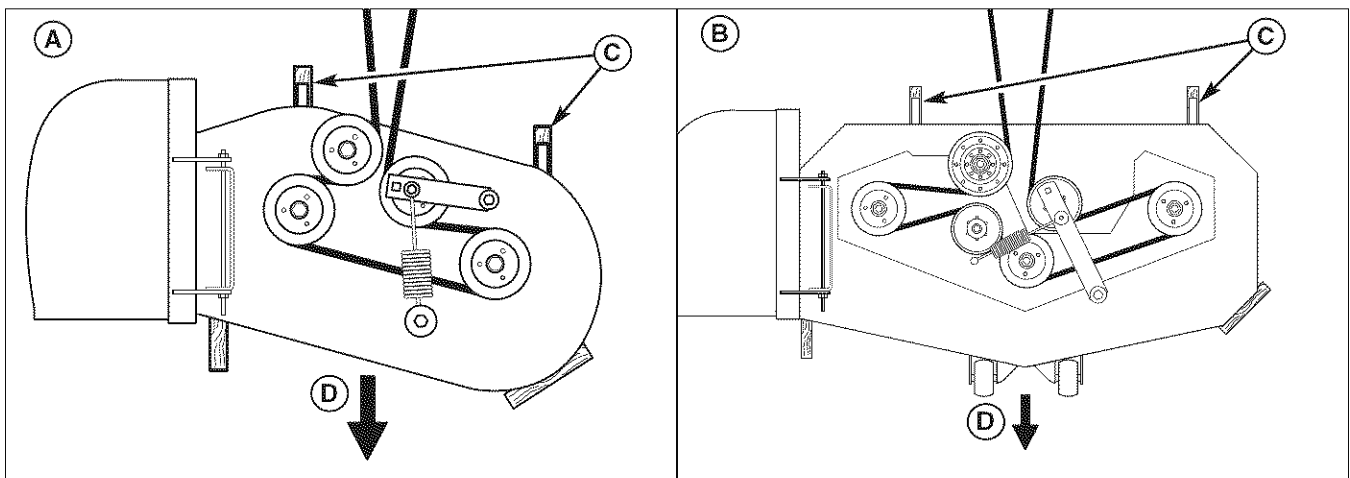

Figure 33. 2 x 4 Locations
4. Place 2 x 4 blocks under the rear of the mower deck with the 3-1/2" sides being vertical. See Figure 33.